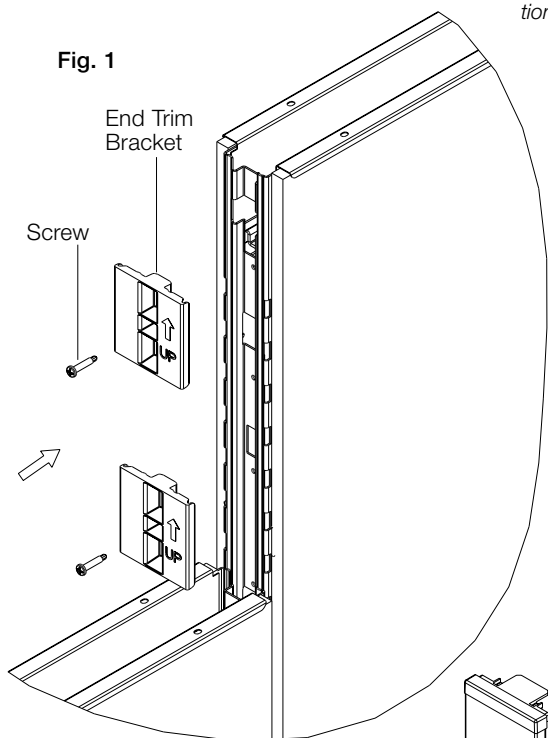

Fig. 1
1. Assemble End Trim Brackets to end of panel using screws provided (**Fig. 1**). Drive screw into pilot hole.
1. Assemble End Trim Brackets to end of upper panel using screws provided, add provided (Fig. 1) Drive screws into pilot hole.